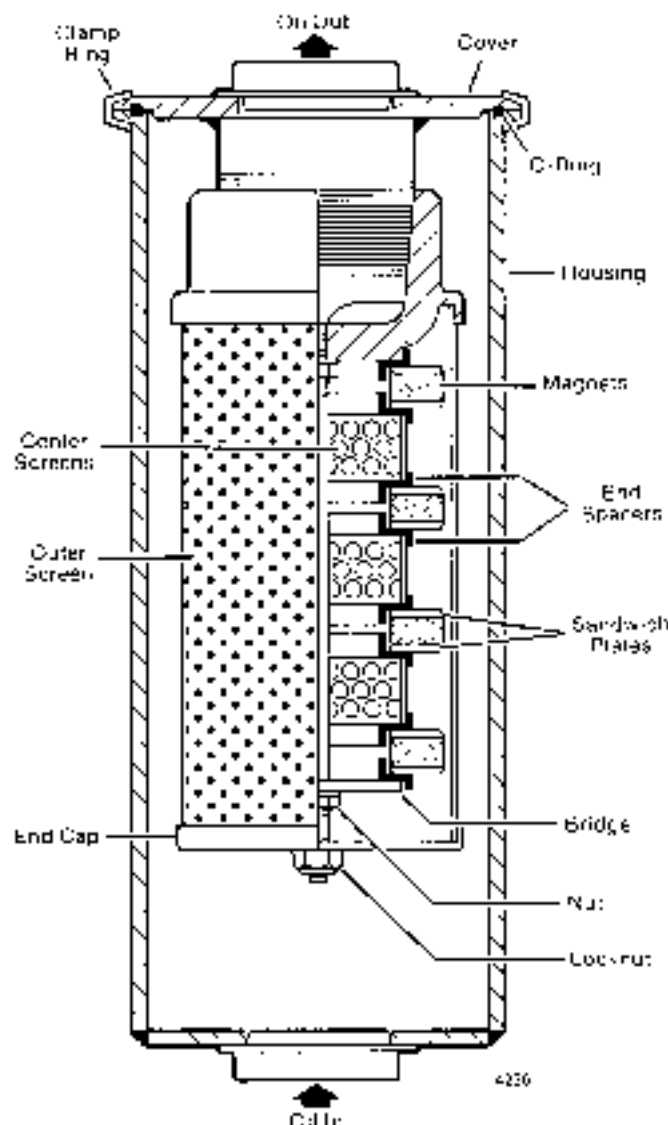

Figure 6 Magnet Suction Screen
4. After the oil has drained, clean the suction screen (if equipped) as follows (see Figure 6):
- f) Reassemble the suction screen using Figure 6 as a guide. Use the polarity of the magnets to aid assembly. Do not distort the bridge or the end cap when tightening the nuts.